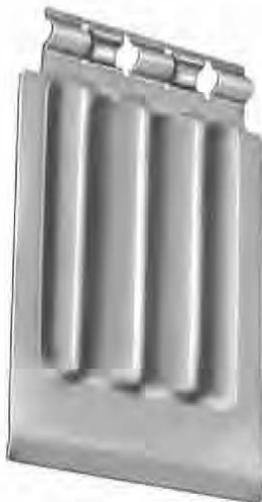

Fig. 13 — P-10E706 Coin Shield
- (1) Place P-10E705 pin through bearing at top of P-10E706 shield so that curved-in portion on bottom of shield is toward hopper when loop of pin is toward the front (Fig. 13).
- (2) Hold loop of pin with long-nose pliers or fingers and place coin-shield pin in hole in rear of hopper.
- (3) Hold shield in place with fingers. Secure end of loop in front hole of hopper with long-nose pliers.
- (4) Adjust loop so that pin does not come out when play is taken up in either direction.
- (5) Check operation of shield.